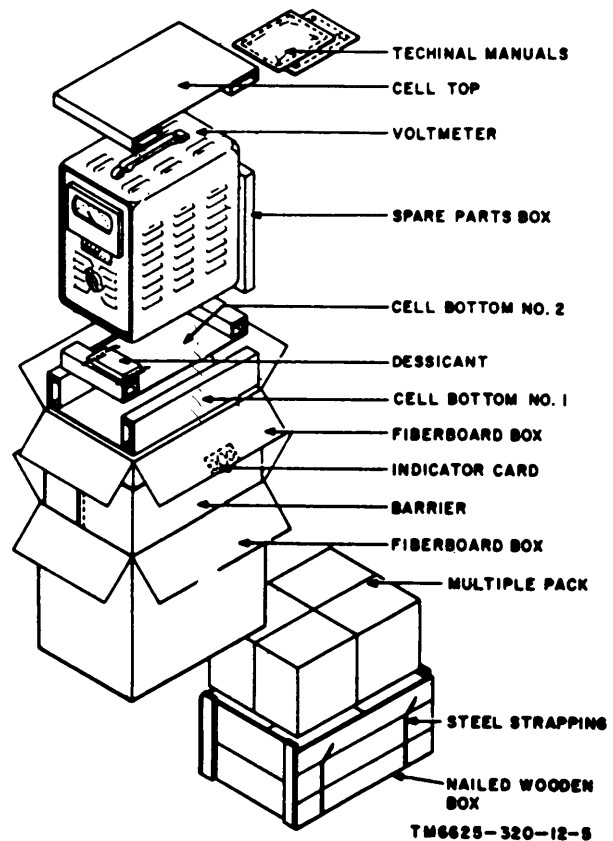

Figure 4. Packaging diagram.
a. Packaging Data (fig. 4).
- (1) When packaged and packed for over-sea shipment, the voltmeters are packed in multiples of four in a nailed wooden box. Each voltmeter is further protected by separate packaging in a fiberboard box. The spare parts are placed in a separate fiberboard carton which is placed in the fiberboard box containing the voltmeter. Both voltmeter and spare parts carton are placed in a vaporproof barrier, desiccated and placed in a water-resistant fiberboard carton. The cartons are placed four each in a nailed wooden box. The dimensions and contents of a typical shipping box are: